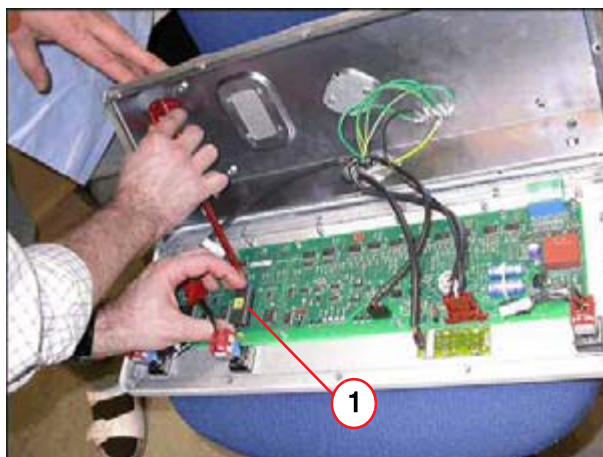

Fig. 12: D740
- IC J10... has to be moved from the old to the new board (1/ Fig. 12 / p. 37).